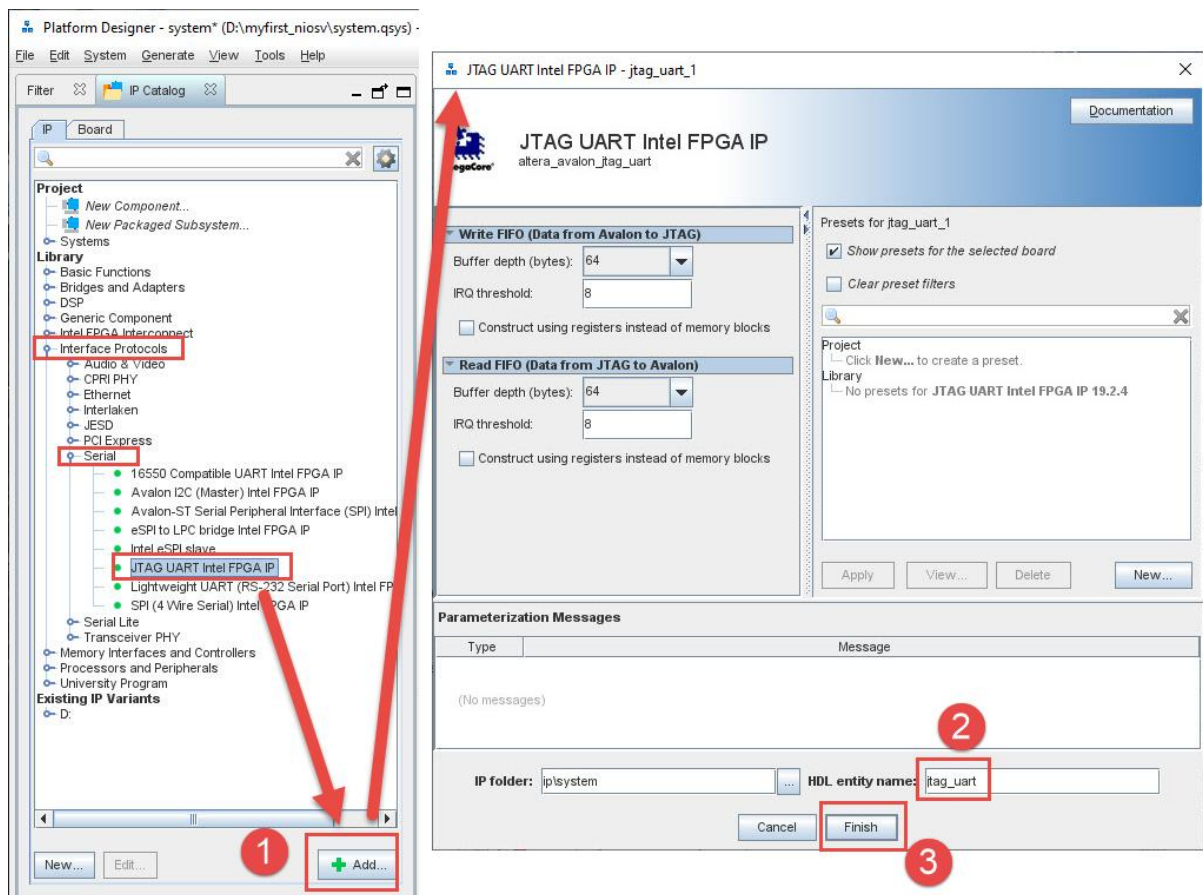

Figure 2-14 Add JTAG UART (1)
3. Choose **Library > Interface Protocols > Serial > JTAG UART Intel FPGA IP** to open wizard of adding JTAG UART as shown in Figure 2-14.